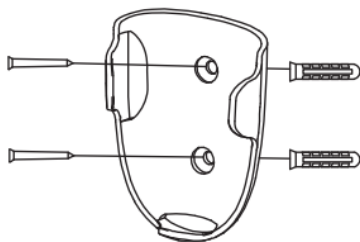

Fig. 13a
- Locate a suitable wall to fix the remote control holder with the 2 screws and 2 anchors. (Fig. 13a).